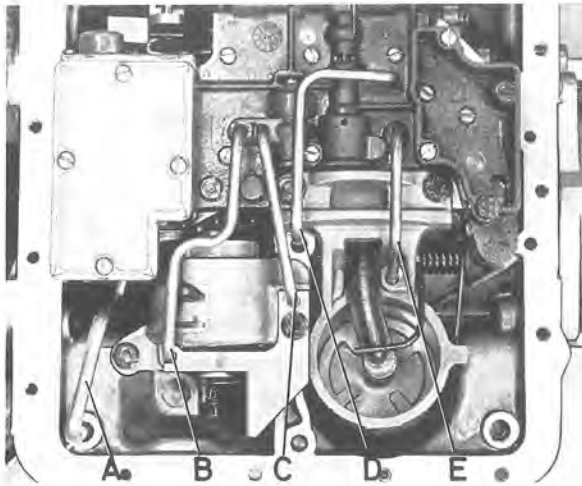

Fig. 4-81. Oil tubes
3. Unscrew the bolts for the oil pan and remove this. Lever out carefully the oil tubes B-E shown in Fig. 4-81.